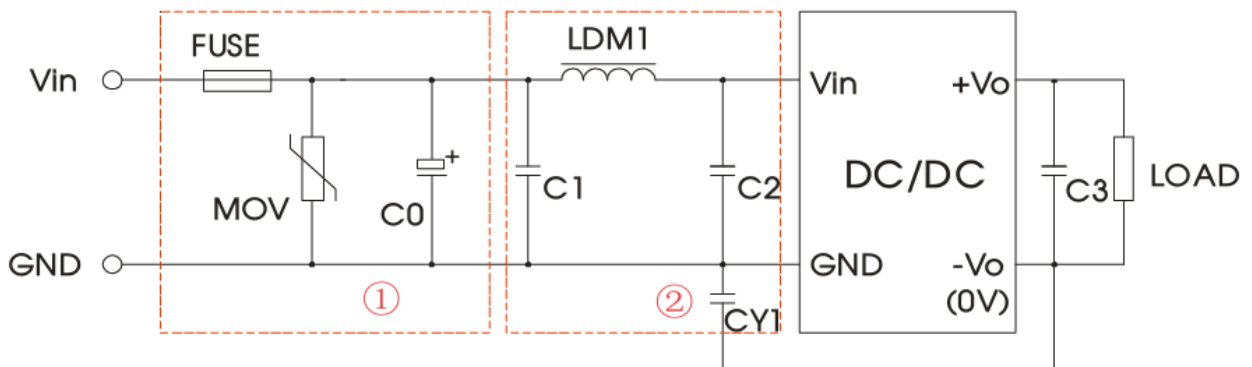

Fig. 3
Note: ①For EMC test we use Part ① in the Fig. 3 for immunity and part ② for emissions, Selecting based on needs. ②If there is no recommended parameters, the model no require the external component.